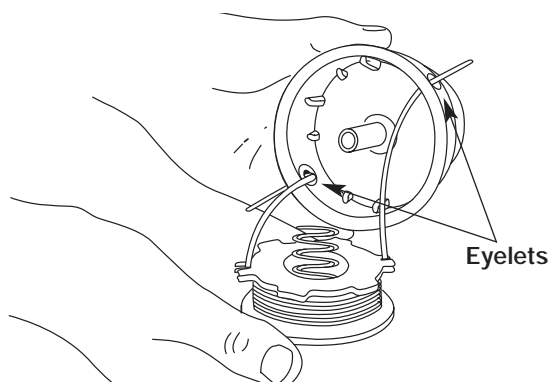

FIGURE 20
- Insert the ends of the line through the eyelets in the outer spool and place inner reel with spring inside the outer spool, Figure 20. Push the inner reel and outer spool together. While holding the inner reel and outer spool, grasp the ends and pull firmly to release the line from the holding slots in the reel.
5. Insert the ends of the line through the eyelets in the outer spool, Figure 20.